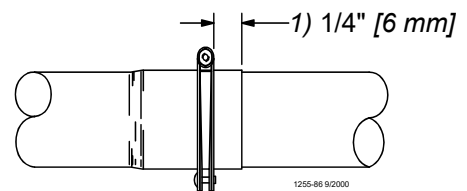

Figure 41. Clamp Installation
Figure 41 shows the proper clamp location on the tube joint. **Do not tighten the clamp at this time.**
- make sure the clamps are located, as shown in **Figure 41**.